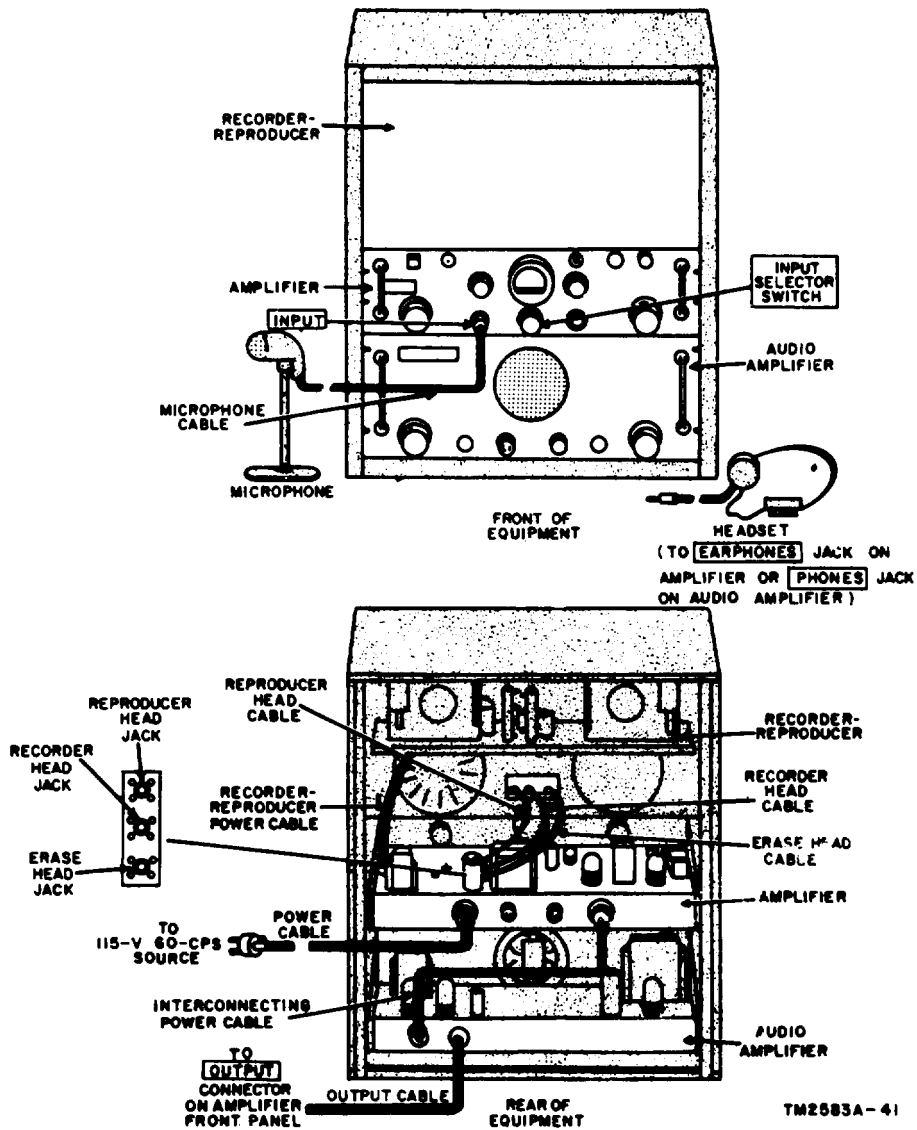
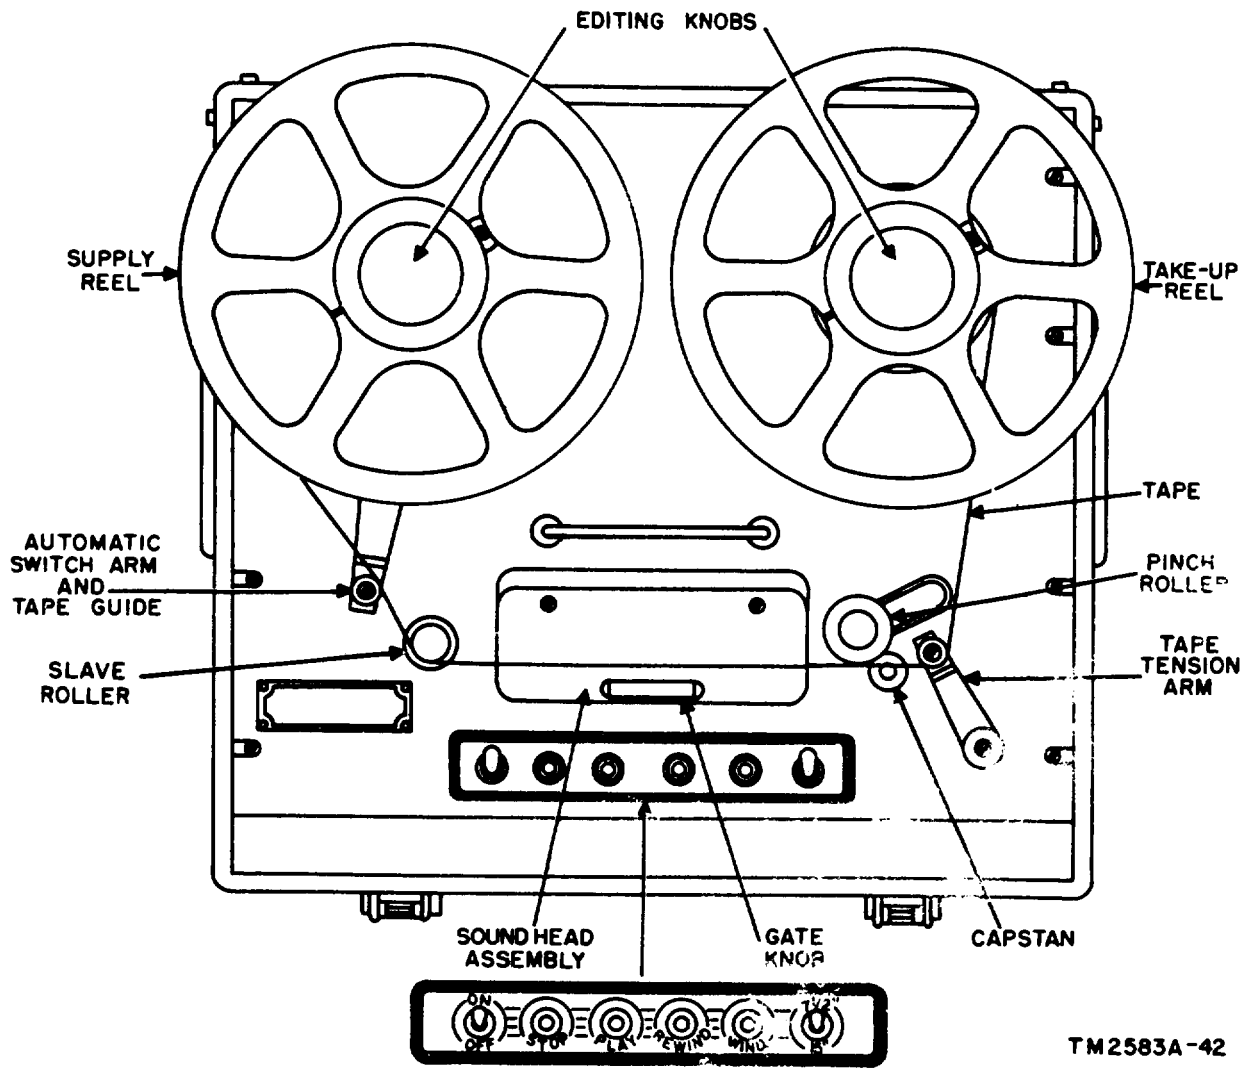

Figure 6. Interconnection diagram (rack mounting shown).
Figure 7. Tape threading diagram.
- (8) Open the carrying cases by unfastening the latches. Check the contents against the packing slip.
- (9) Inspect the equipment thoroughly for shipping damage.
a. General. The recorder-reproducer set is packaged with all tubes and fuses in place, and with one end of the interconnecting power cable connected to the amplifier. The recorder-reproducer set may be rack-mounted (fig. 6) or it may be installed as a desk or table unit with the components in their respective carrying cases (fig. 1) (with the carrying cases stacked or separated). Allow enough room for operating the equipment.
- (1) Unlatch and remove the covers of both carrying cases.
- (2) Move the ON-OFF switch (fig. 7) on the recorder-reproducer to the OFF position.
c. Setting up Equipment in Rack (fig. 6).
- (1) To rack-mount the equipment, remove the four screws that hold the amplifier to its carrying case; remove the four screws that hold the audio amplifier to its carrying case, and remove the eight screws that hold the recorder-reproducer to its carrying case.
- (2) Lift the recorder-reproducer out of the carrying case and disconnect all cables. Identify each cable with a tag to indicate the correct connections.
- (3) Install the recorder-reproducer in a vertical position in a standard rack. Below the recorder-reproducer, install the amplifier, and below the amplifier install the audio amplifier.
- (4) Connect each cable to the proper connectors.
- b.* Turn the editing knobs (fig. 7) on the supply reel and the take-up reel spindles counterclockwise and lift the knobs off the spindles.
- c.* Insert the hub adapter (located on the spindles into the reel before mounting; do not mount the reels on the hub adapters. Mount a full reel of tape on the supply reel (left-hand) spindle, and mount an empty take-up reel on the take-up (right-hand) spindle (fig. 7).
- e.* Open the gate on the sound head assembly by pulling the gate knob (fig. 7).
- g.* Thread the tape in the path indicated in figure 7. Insert the end of the tape in one of the slots in the take-up reel. Turn the take-up reel 2 or 3 turns counterclockwise to wind the tape onto the reel and also to remove any slack in the tape.
- b.* Move the 7½ 15" switch on the recorder-reproducer (fig. 7) to the desired speed.
- h.* To select the portion of tape to play, wind or rewind the tape for the desired information (par. 19 and 20). After reaching the approximate location of the desired material on the tape, use the editing knobs (fig. 7) to rotate the reels as required to reach the exact location.
b. Grasp the gate knob on the sound head assembly (fig. 7) and open the gate.
c. Press the REWIND switch. One minute is required to rewind a full 10 ½-inch reel. The equipment will shut down when the end of the tape comes off the take-up reel and frees the automatic switch arm and tape guide (fig. 7).
d. If a full tape rewind is not necessary, press the STOP switch and close the gate on the soundhead after rewinding the tape to the approximate location; use the editing knobs (fig. 7) to find the desired recording. Recording or reproducing is not possible unless the gate is closed.
a. Grasp the gate knob on the soundhead assembly (fig. 7), and open the gate.